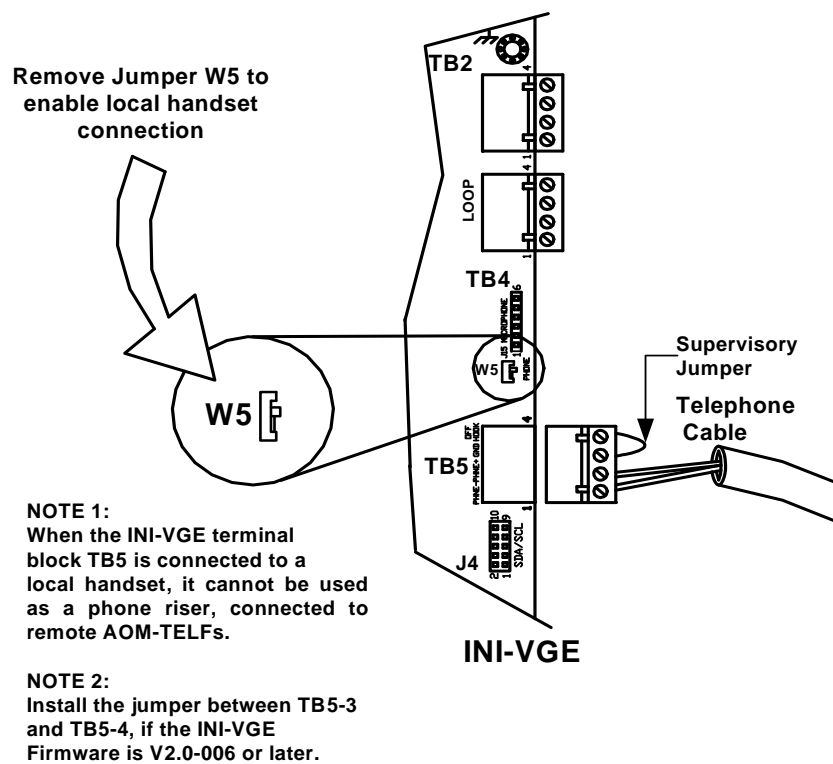

Figure 2.7.9.1 Fire Fighter's Intercom Handset Assembly
5. Remove INI-VGE jumper W5 to enable local handset connection. See Figure 2.7.9.1.